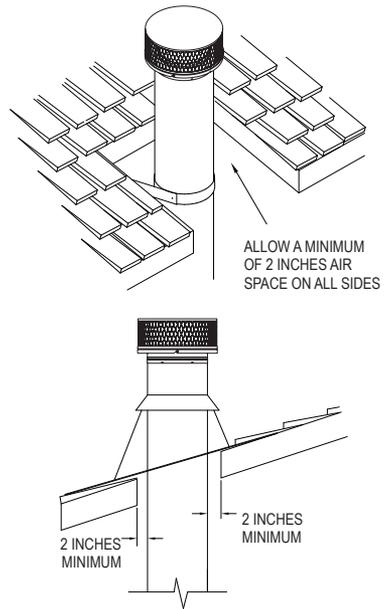

Figure 22
Attach the Chimney Sections as in **Step 8** in the Ceiling Supported Installation section. Secure the chimney to the wall with Wall Straps at 4-foot intervals to maintain at least 2 inches of clearance to combustible materials. Slip the Wall Straps around the chimney, tighten the bolts, and fasten the Wall Straps to the wall with (4) #8, 2-1/2" long wood screws. Once the chimney is at the minimum height specified in **Figure 1**, attach the Chimney Cap onto the top of the chimney by holding it by the collar and slipping the female end of the Cap onto the male end of the Chimney Pipe. Secure the Cap in place by using the (6) sheet metal screws provided. If the chimney penetrates an overhang, frame for at least 2 inches of clearance, and install Roof Radiation Shields (required for 18"-24" diameter chimney only), Flashing and Storm Collar as described in **Steps 7, 10 & 11** for Ceiling Supported Installations. Another option is to cut away the overhang for a 2-inch clearance (**Fig 22**). If the chimney extends more than 4 feet above the top Wall Strap or Flashing, use an Extended Roof Support Bracket. NOTE: In a UL 103 Type HT